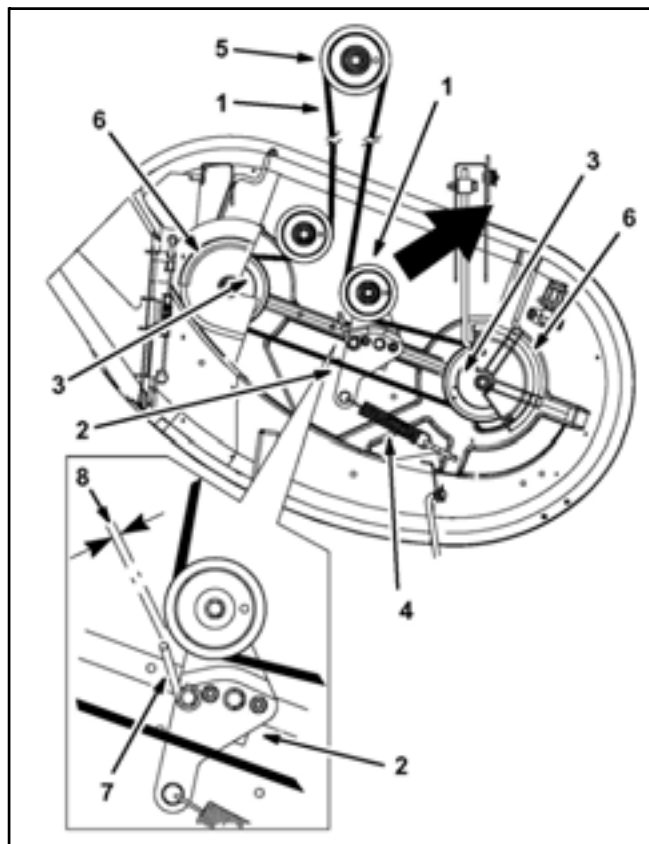

Figure 100
- Pull the idler pulley in the direction shown in Figure 100 and roll the belt off of the pulleys.
- Route the new belt around the engine pulley and mower pulleys (Figure 100).
- Pull the idler pulley in the direction shown in Figure 100 and route the belt onto the idler pulley (Figure 100).
- Rotate the belt guide, on the idler arm, so it is 1/32 to 1/8 inch (0.8–3mm) away from the side of the mower belt (Figure 100).